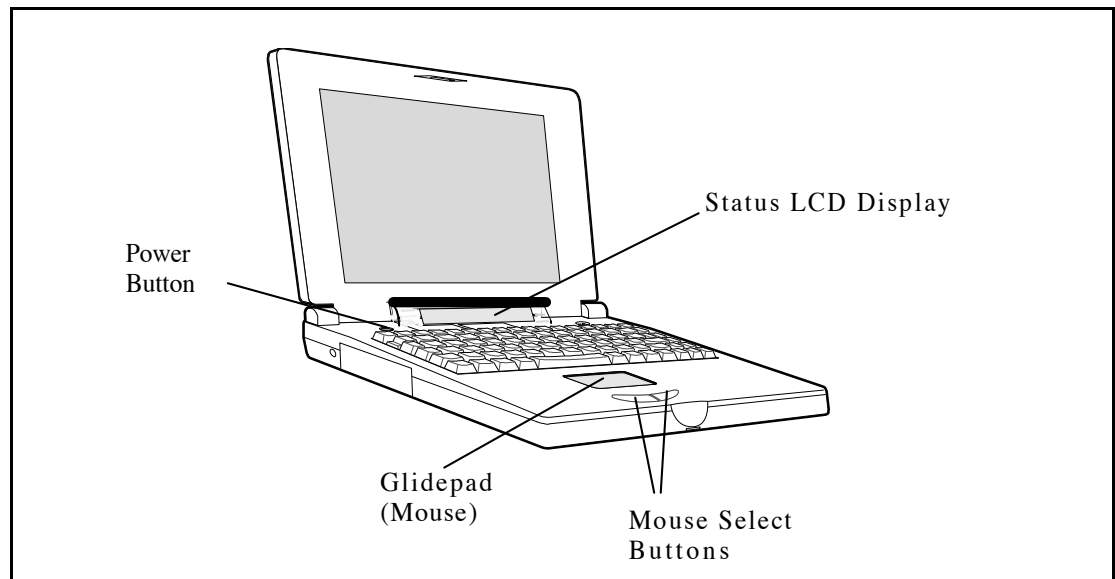

Figure 3-1 Extensa Series Controls and Indicators
- Status LCD centered above the keyboard - ICONs are used to convey status information (refer to Figure 3-1)
The Extensa 57x Series Notebook Computers are equipped with a built-in mouse device called the glidepad physically located at the base of the keyboard (refer to Figure 3-1).